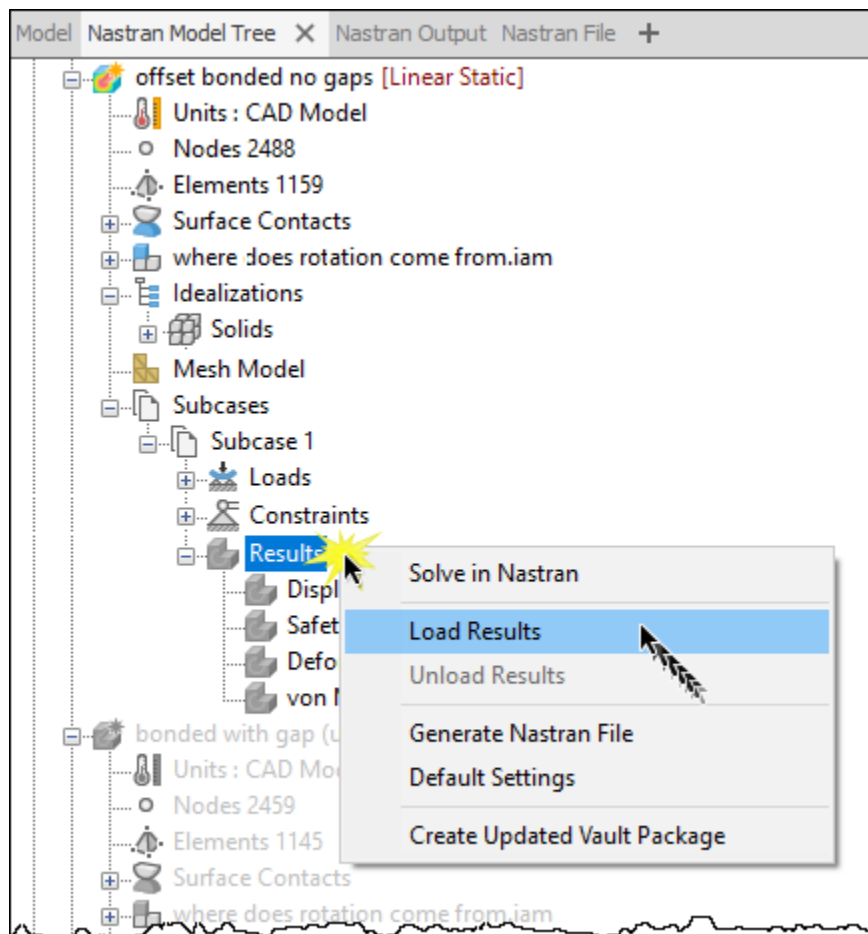

Figure 70 - Load Results for an existing analysis.
- The easy way! Right-click on “Results > Load Results” in the Model Tree. See Figure 70.